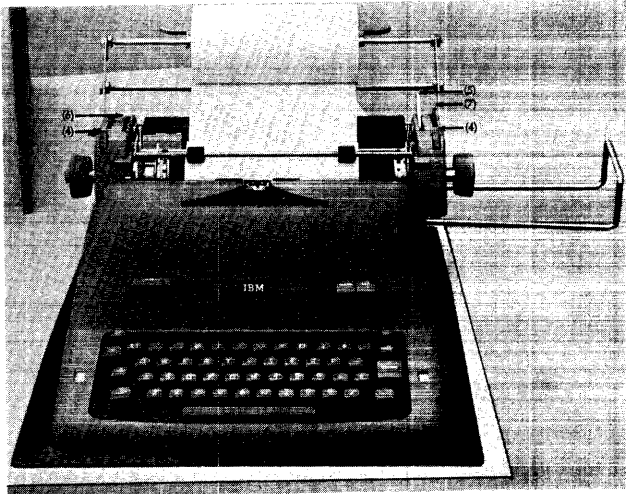

Figure 33. IBM 1620 I/O Typewriter
- (1) *Impression Indicator.* The lever under this window can be positioned in settings from 0 to 10, to determine the force with which the type bars strike the paper. The higher the indicator setting, the harder the type bars strike. To test for the correct setting, move the indicator up until the comma and period print distinctly but not heavily. Use a higher setting for multiple copies, but be sure that the multiple copy lever is also correctly set before finally adjusting the impression.
- (2) *Tab Clear Lever.* To clear tab stops, tabulate to the point to be cleared and depress the clear lever. To clear all stops at once, position the carriage at the right margin, hold down the clear lever, and return the carriage to the left margin stop.
- (3) *Tab Set Lever.* To set tabular stops, move the carriage to the desired position and depress the set lever. Set tab stops only when the indicator pointer (see Figure 33) is in line with a white marking on the front paper scale below it.
- (4) *Carriage Release Lever.* Depress the lever on either side to free the carriage and manually move the carriage to the right or left.
- (5) *Paper Release Lever.* To free the paper for positioning or quick removal, move this lever forward.
- (6) *Line Space Lever.* Moved to position 1, 2, or 3, the line space lever provides for single, double, or triple line spacing, respectively.
- (7) *Multiple Copy Control.* This lever moves the platen backward to compensate for the greater thickness of additional copies. As a general rule the lever should be set at "A" for one to three copies and moved back one position for each additional three to five copies. Heavy print at the top of characters shows that the platen is too far back; heavy print at the bottom of characters shows that the platen is too far forward. The slash (/) is a good character to use in checking multiple copy settings.
- (8) *Left-Hand Margin Set.* The left margin stop is set as follows: